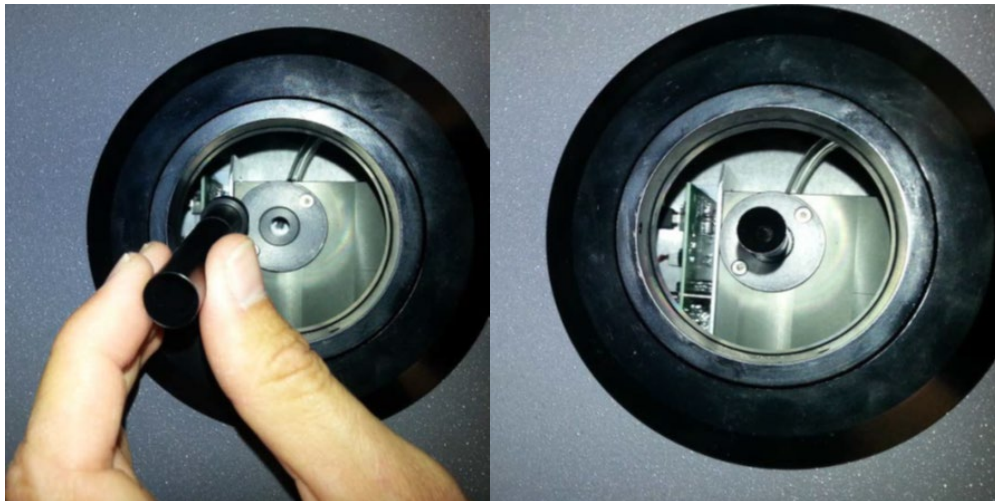
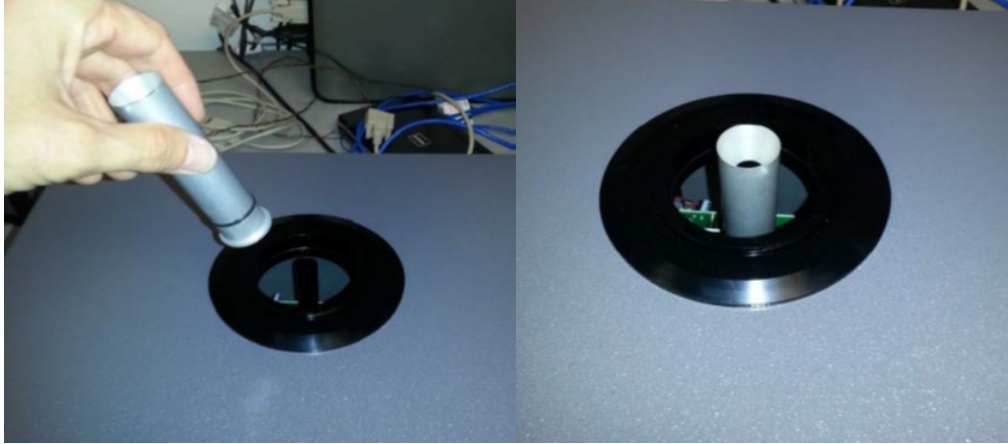

Figure 21. ASC Setup: Inlet Nozzle
Figure 22. ASC Setup: Aluminum Adapter
1. Insert the black inlet nozzle through the center of the support collar into the top of the optical sensor, seating it tightly so that the nozzle’s upper O-ring flange is flush with the upper surface of the sensor body (Figure 21).
2. Slide the aluminum adapter over the black inlet nozzle, ensuring its base is flush with the top of the optical sensor (Figure 22).
- a. Make sure the black inlet nozzle (Figure 21) and aluminum adapter (Figure 22) are installed on the optical sensor.